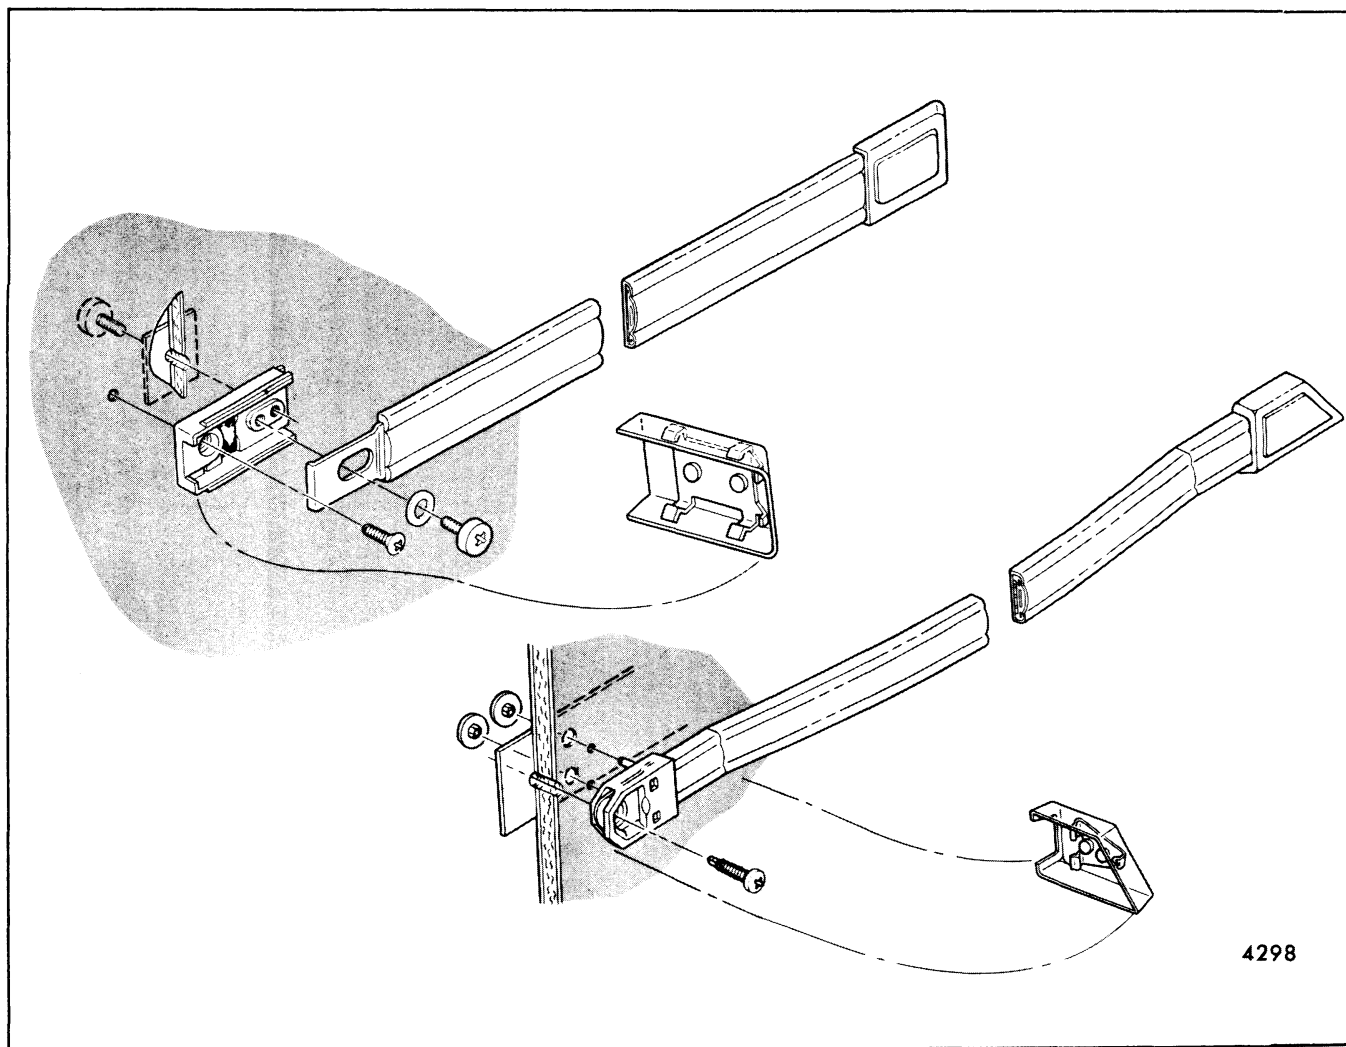
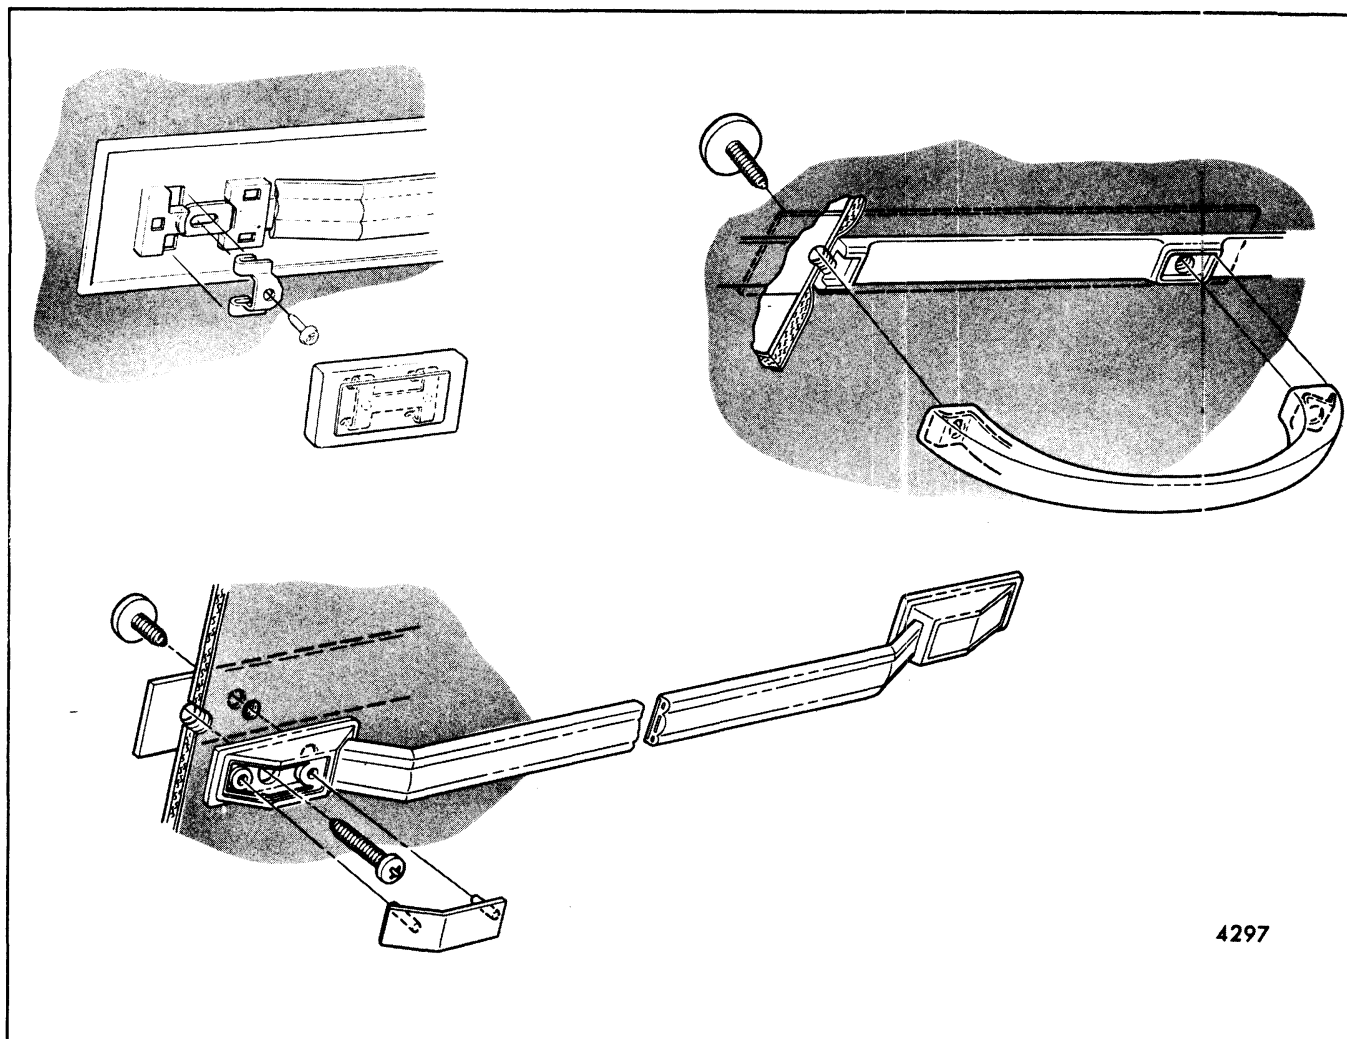

Fig. 5-1-Typical Door Pull Handle Attachment
Fig. 5-2-Typical Door Pull Handle Attachment
Door pull handles are secured to the trim pad with screws or stud nuts on the outboard (reverse) side of the trim assembly prior to trim installation. In addition, on some styles, the handles are secured to the door inner panel with screws installed from the in-board side after trim installation. With this method of installation, the pull handle and trim pad are removed from the door as an assembly (Figs. 5-1, 5-2 and 5-3).
**NOTE:** To remove the door trim assembly on any style equipped with a door pull handle requires removal of the screws inserted through the handle hinges or handle base into the door inner panel. On styles with snap-on escutcheons covering the handle screws, carefully disengage the escutcheons from the retainers using a flat-bladed tool (Figs. 5-1, 5-2 and 5-3). On styles with stud retained escutcheons (Figure 5-2), pry alternately from both ends of the escutcheon to prevent stud breakage during removal operation.
3. On styles equipped with door pull handles, remove screws inserted through handle into door inner panel. (For location of screws, refer to Figs. 5-1, 5-2 and 5-3).